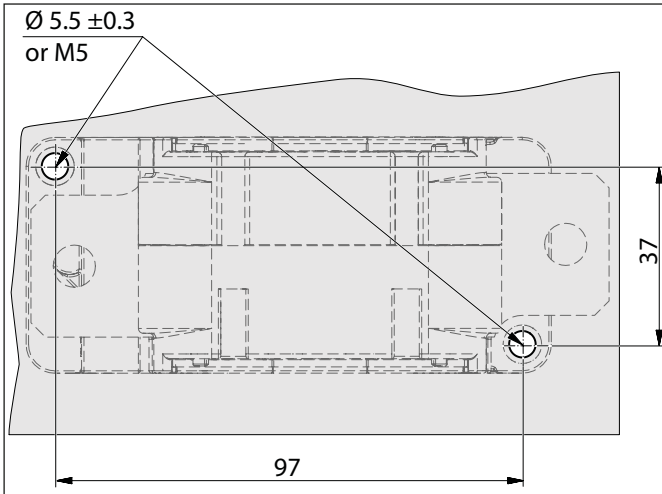

Fig. 1: C300-500-GXP... (screw mounting): Dimensions and layout of mounting holes
- ▶ A suitable mounting plate with 2 mounting holes must be provided according to the following dimensional drawings (*Fig. 1*).